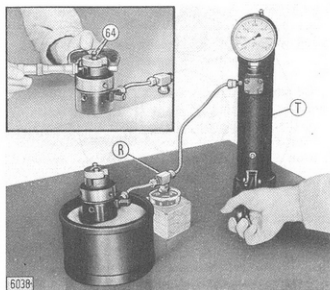

Fig. 75 - Checking Roller Spacing
- Connect one end of tool No. **290755** (R, Fig. 75) to hand pump tool No. **290284** (T) fitted with FIAT CFB fluid, and the other end to one hydraulic head delivery connector holes.